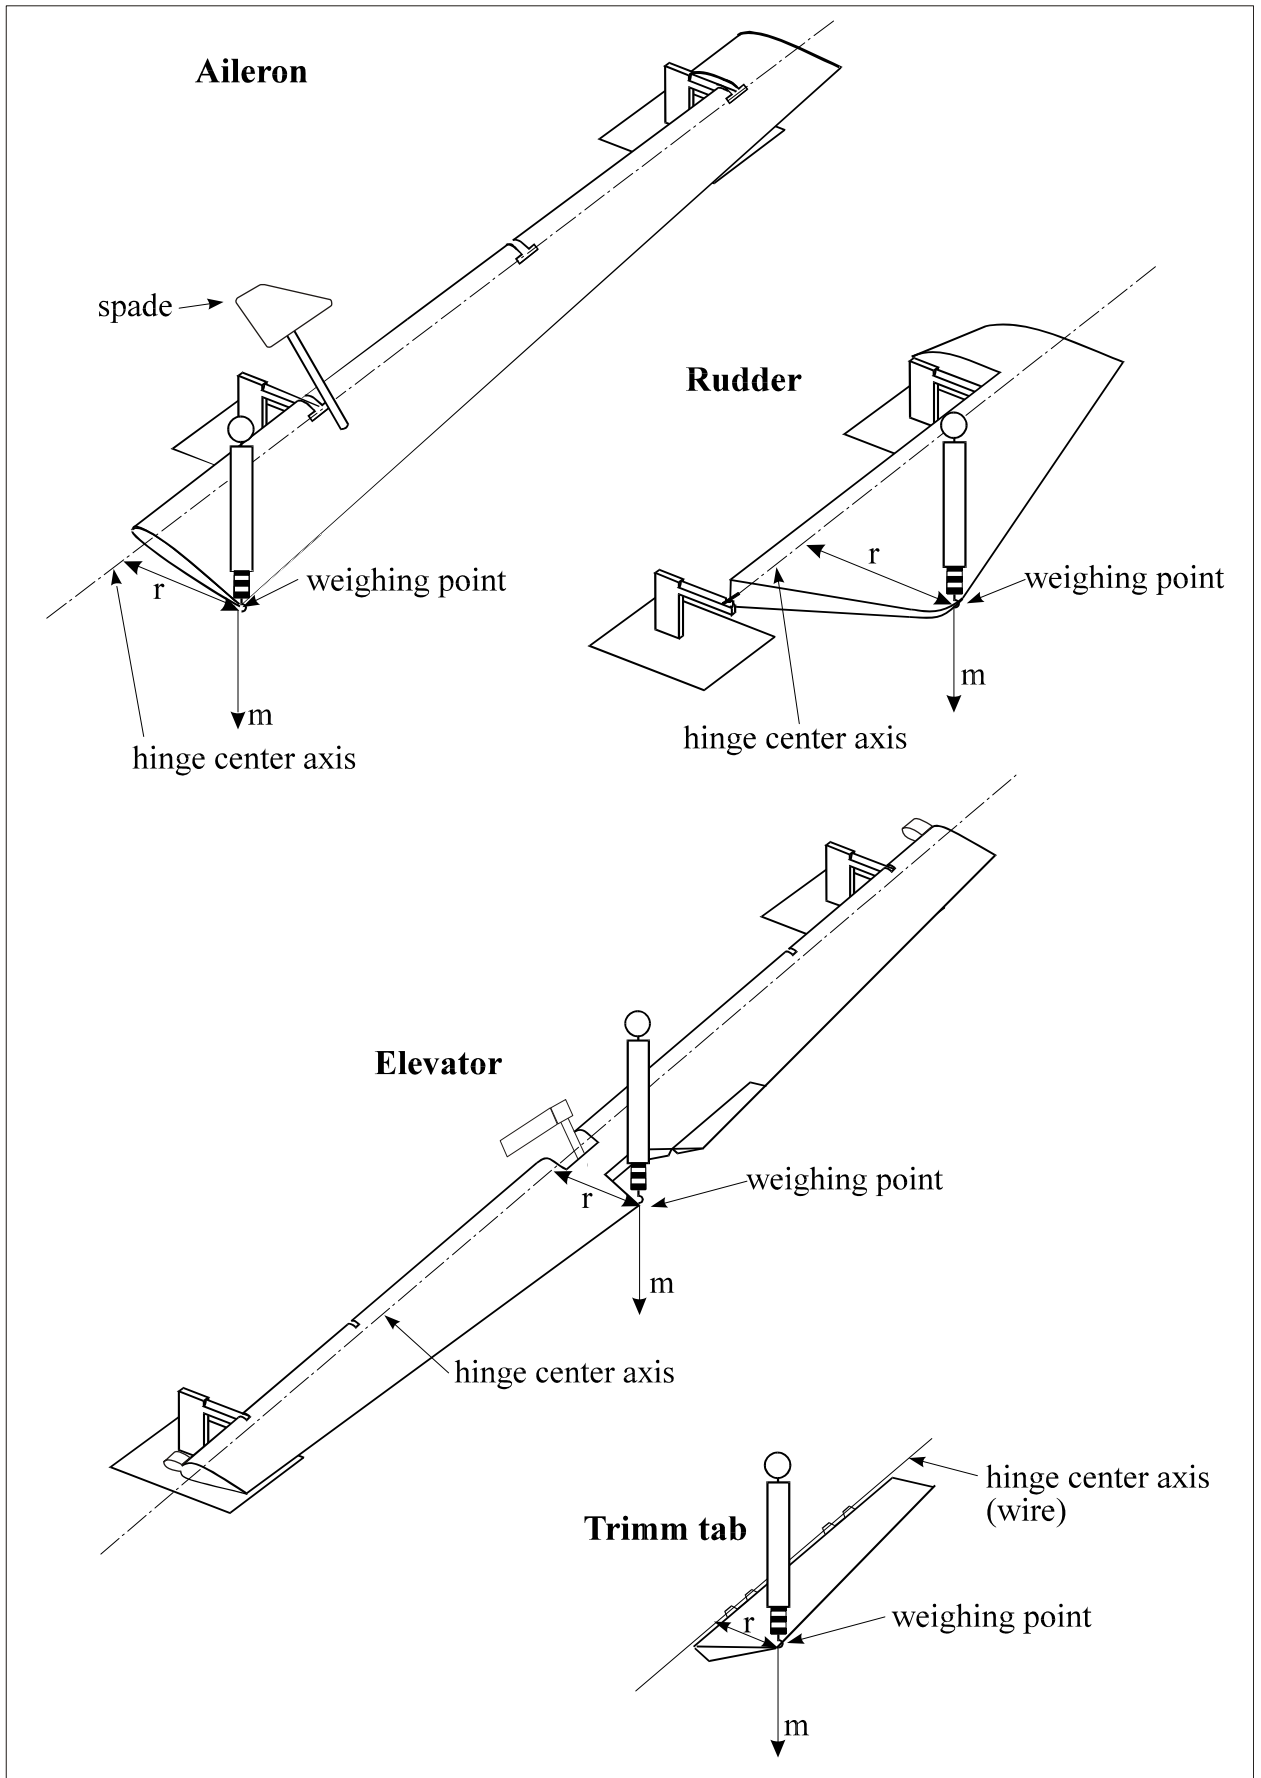
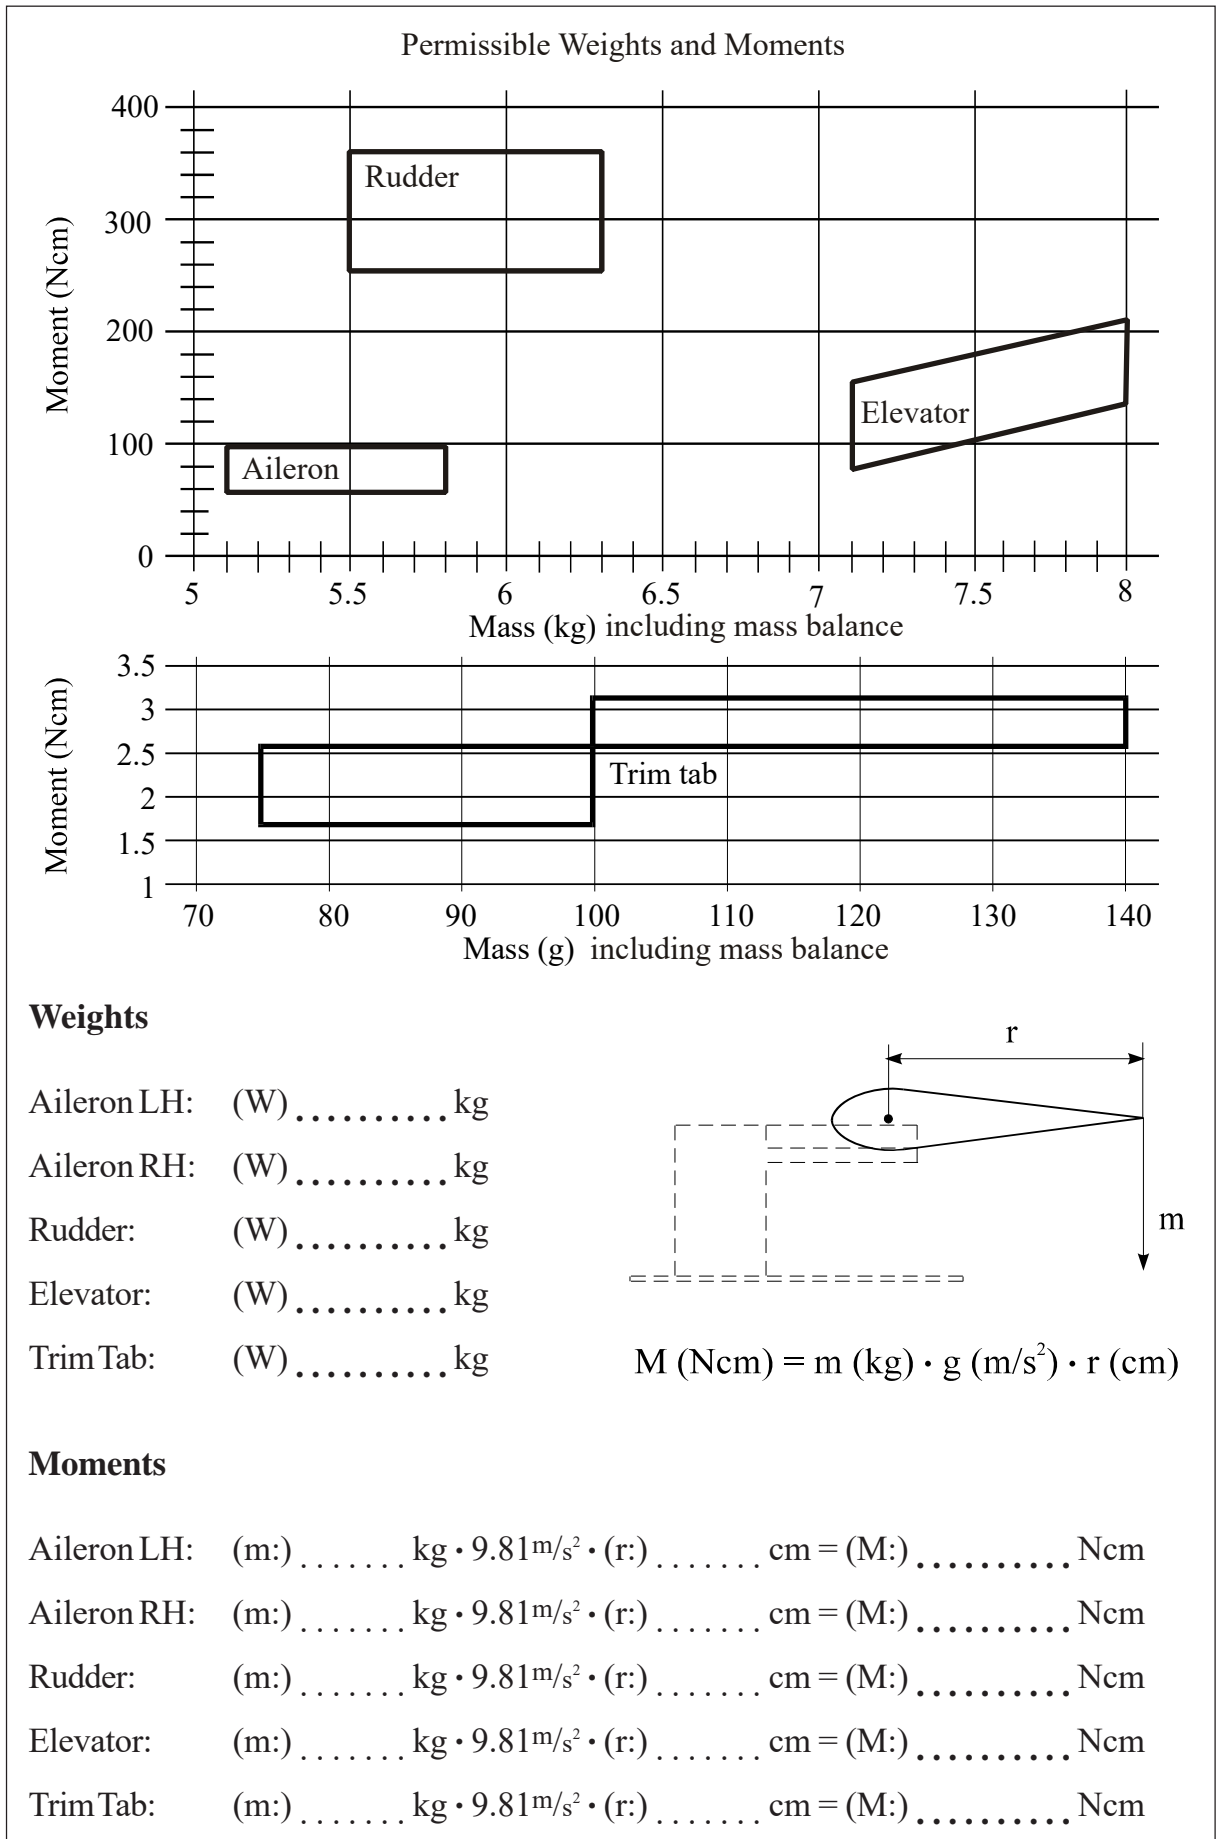

Figure 3
Figure 4 Control Surface Weights and Moments
- 4 Level control surfaces and weigh by means of a conventional spring balance (kg/g-indication) at the given weighing points (figure 3) and enter the weight (m) in figure 4.
- 5 Measure distance of hinge center line to weighing point (r) and enter the value in figure 4.
- 6 Calculate the control surface moment (M) in figure 4.
If values exceed the given tolerances in figure 4 contact the manufacturer before modifying of control surfaces.
- 6 Apply the thermal curing cycle (refer to figure 3).